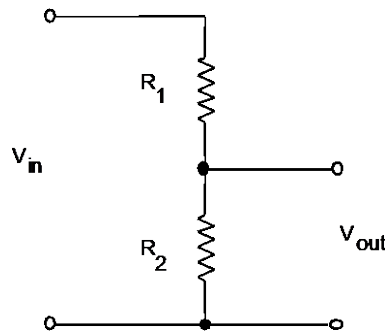

Figure 1-10
- * Measure the values of the resistors shown in Figure 1-10, then wire up the circuit. Use the prototyping board. Use the 5-Volt power supply built into the prototyping board to supply V_{in} .